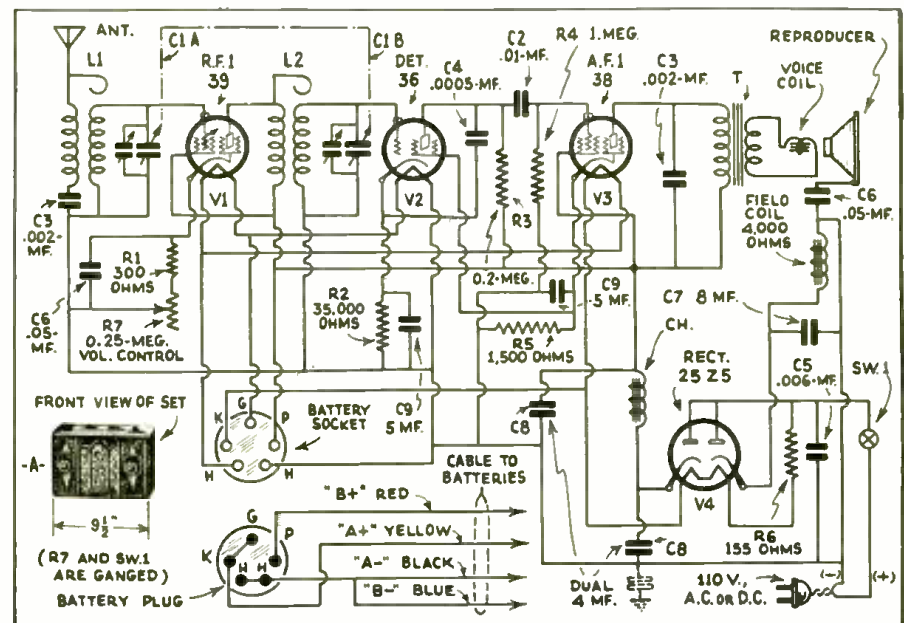

Fig. 1.
- (1) Wire all the filament terminals of the sockets, exactly as shown in diagram of Fig. 1.
- (2) Connect the cathode terminals to the filaments just as indicated.
- (3) Wire the socket plate terminals and follow the diagram.
- (4) Connect the control-grid terminals together as per diagram.
- (5) Wire the remaining grid connections as shown on the diagram.
- (6) Connect one end of the 7,000-ohm, wire-wound, pigtail plate-circuit resistor, R2, to the negative terminal of the meter. The other end of the resistor is connected to the plate terminal of the socket above the meter. Be careful not to bend the portion of the resistor leads colored brown or green, as you may break the thin wire connections and open circuit the resistor.
- (7) Connect the large 10-watt resistor, R1, according to the diagram.
- (8) Wire the multi-circuit jack switch,
The chassis is 10 inches long, 4 1/4 inches wide, and 1 1/2 inches high. All data regarding the circuit are given in Fig. 1.